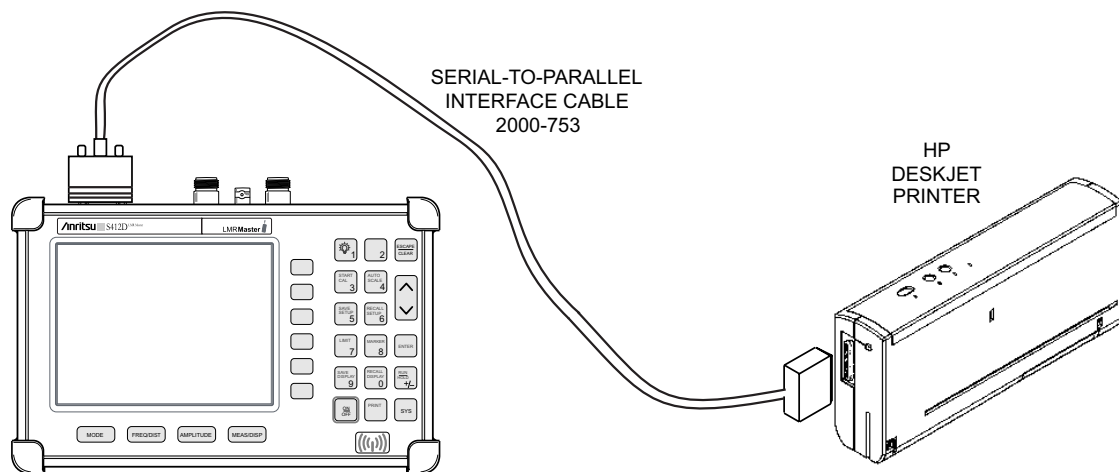

Figure 3-4. LMR Master Printer Setup
5. Connect the printer as shown in Figure 3-4.